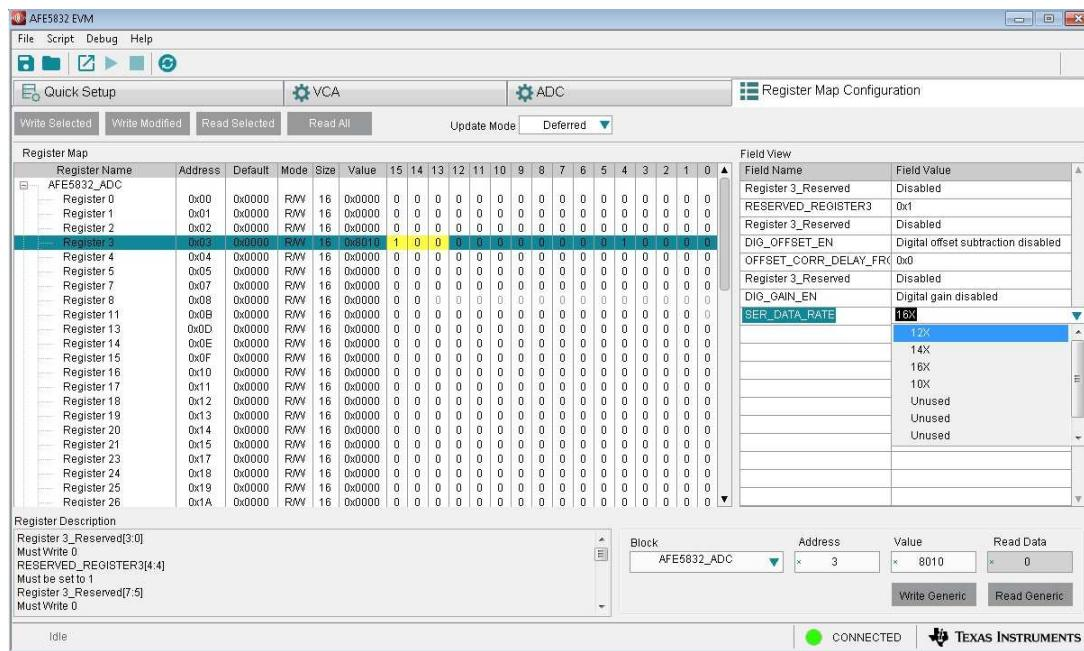

Figure 58. AFE5832: Register Map Configuration: Changing Register Value
- GUI Controls:** Hovering over the corresponding *Field Value* to a *Field Name* generates a drop-down menu from which a series of options can be picked to populate that field as Figure 58 shows. The change shows up in the register map. The value for a specific bit can also be changed by clicking on the bit in the register map.